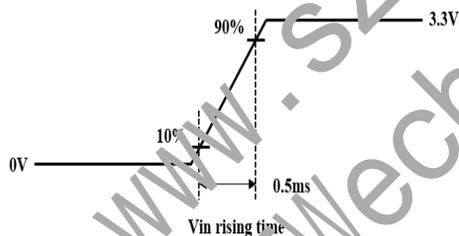

Figure 4. Inrush/Measure Condition
3. Measure condition (Figure 4)